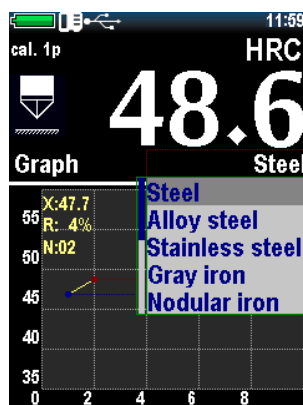

Figure 2.7 – Material selection
- Select the material that is going to be tested. By pressing **<MATERIAL>** open the selection menu (Figure 2.7), with the keys **<↑>** and **<↓>** select the required material (steel, alloy steel, stainless steel, gray iron, ductile iron (<Nodular Iron>), aluminum, brass, bronze, copper, user material (<USER. 1>, <USER. 2>).